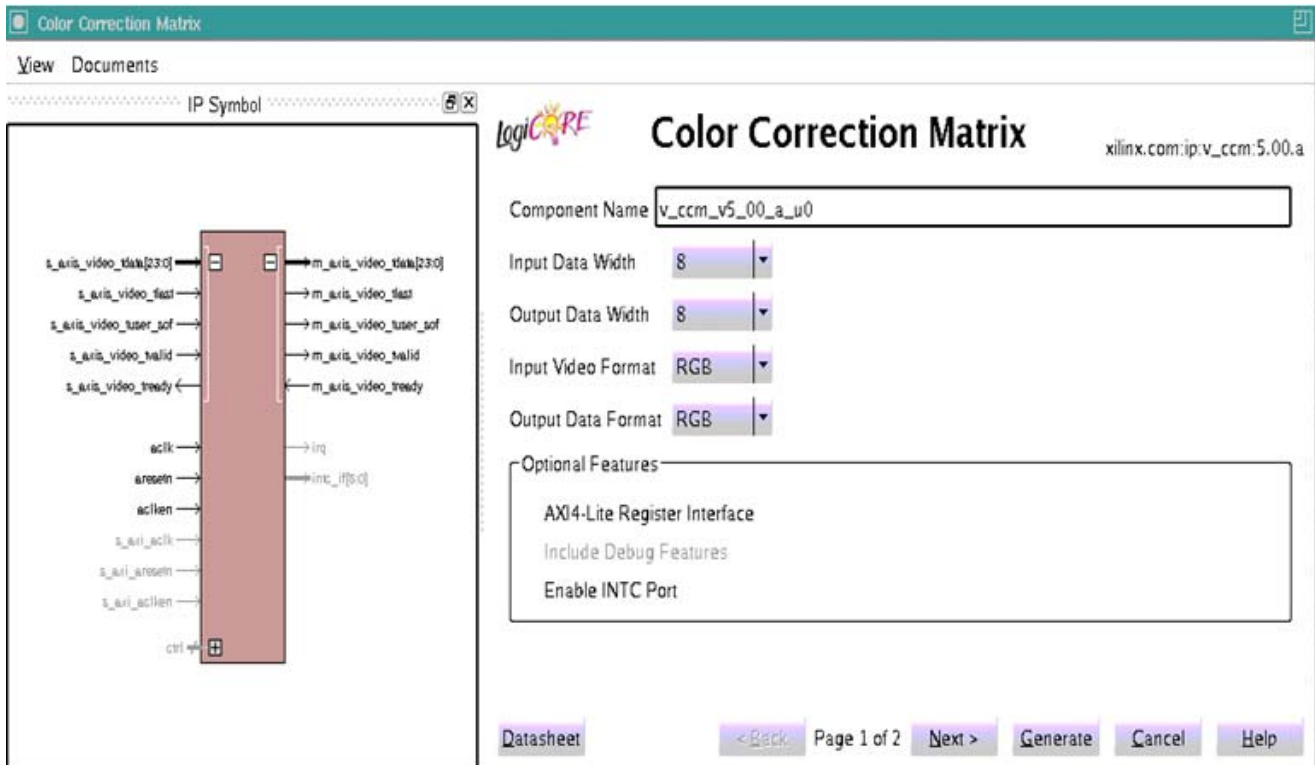
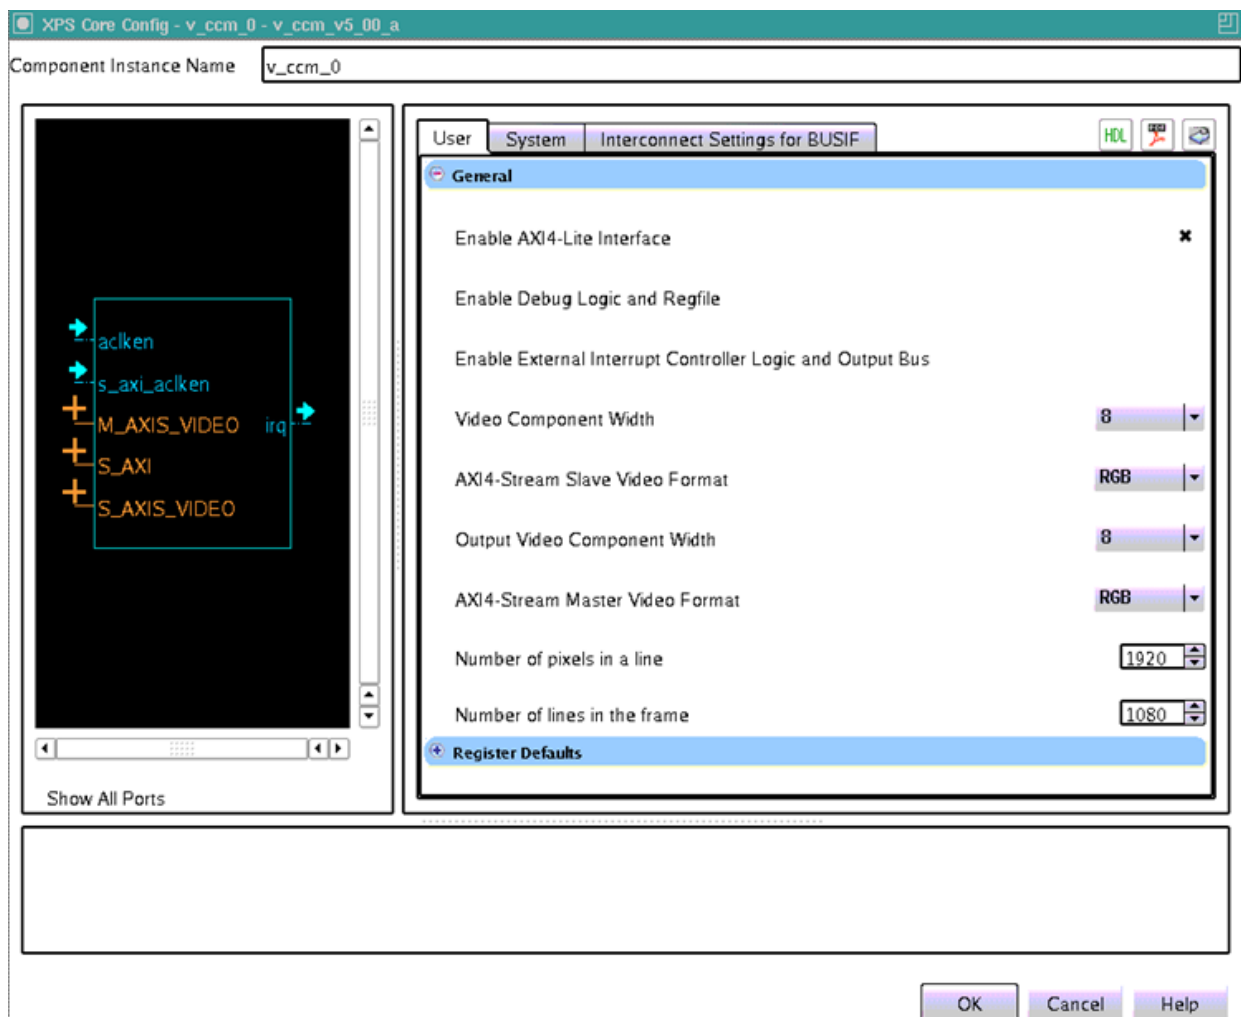

Figure 7-1: Screen 1
Figure 7-3: EDK Graphical User Interface
The first screen (Figure 7-1 for CORE Generator and Figure 7-3 for EDK) shows a representation of the IP symbol on the left side, and the parameters on the right, which are described as follows:
- Offsets:** Enter the offset coefficients (O in Equation 1-1). These signed coefficients have the same bit width as the output. Enter the offset values (O in Equation 1-1). These signed integer values must be in the range $[-2^{\text{Out_Data_Width}}, 2^{\text{Out_Data_Width}} - 1]$, and are 1-bit wider than the Output Data Width specified on the first page of the GUI, as shown in Figure 7-3.